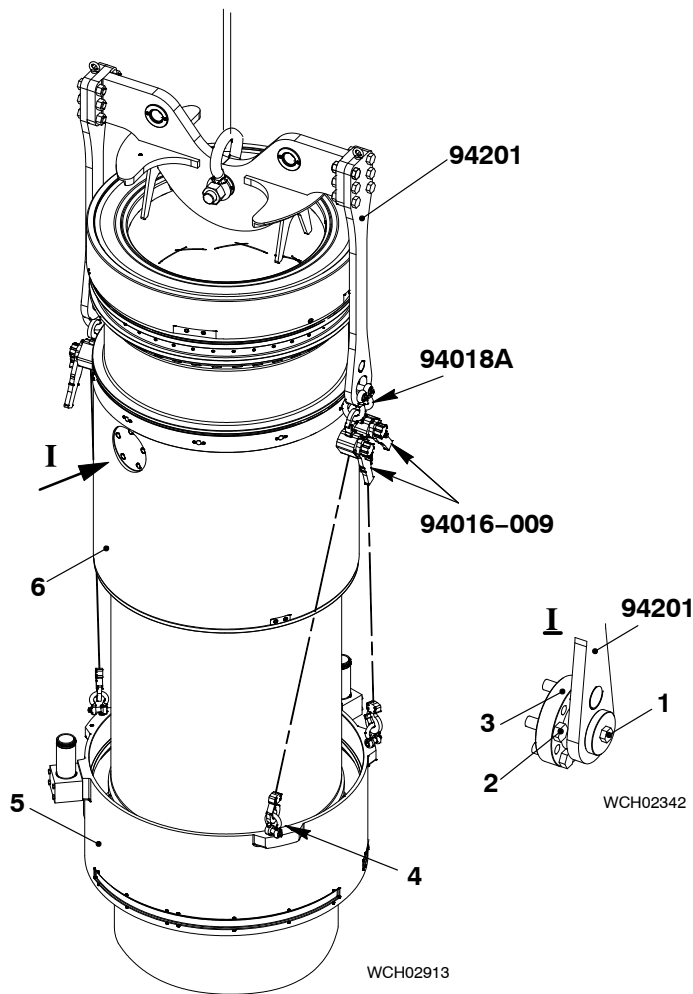
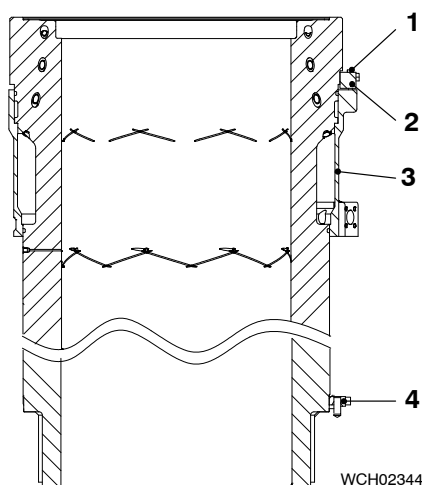

Fig. 13
Fig. 14
- 3) Use the tool (94233) to remove all the tension springs (1, Fig. 13).
- 4) Remove the plate (3).
- 5) Remove insulation bandage (2).
- 5) Lift, move and lower the cylinder liner into the water guide jacket (5, Fig. 13).
- 6) Remove special screw (1) and the flange (3) from the lifting tool (94201).
- The three eye bolts (4) on the water guide jacket (3).
- 8) Operate the manual ratchets (94016-031, 94016-009) to lift the water guide jacket (5) to the applicable position on the cylinder liner.
- 9) Attach the water guide jacket (3, Fig. 14) to the cylinder liner with the three screws (1).
- 10) Attach the holder (4).